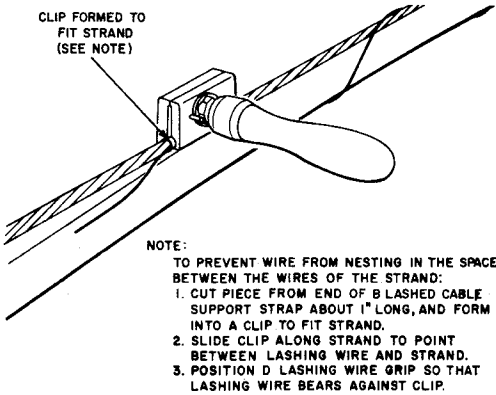

Fig. 2—Terminating 045 Lashing Wire on 16M Strand
2.03 Position the D Lashing Wire Grip on 045 lashing wire on 16M strand as shown in Fig. 2.